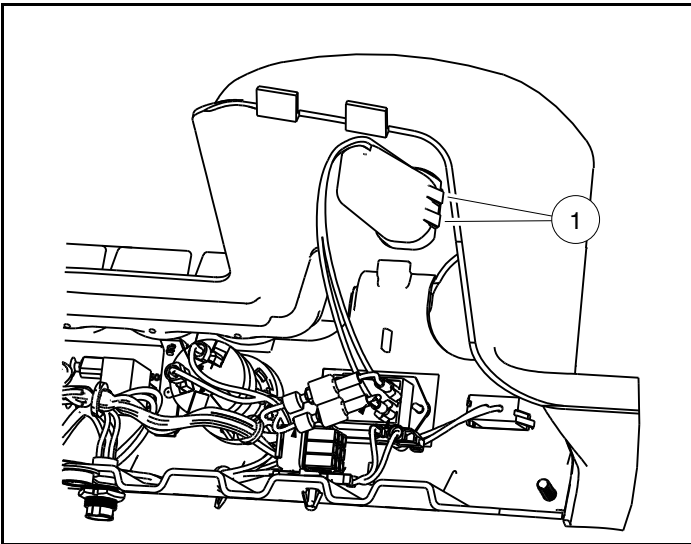

Figure 13-5 USB Port Removal
1. Remove the instrument panel to access the USB port wires and lock tabs (**Figure 13-5, Page 13-4**).